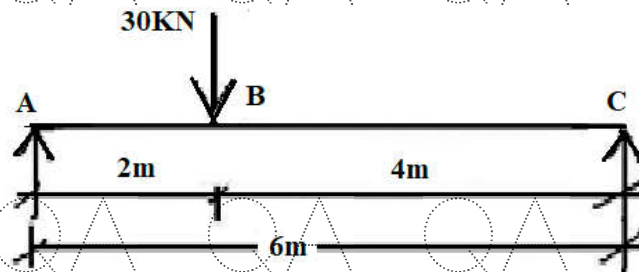

Figure 4
5. A beam AB is simply supported over a span 5m in length. A concentrated load of 30kN is acting at a section 2m from support. Calculate the deflection under the load point. Take $E = 200 \times 10^6 \text{ kN/m}^2$. And $I = 13 \times 10^{-6} \text{ m}^4$. (As shown in figure 4). [10]